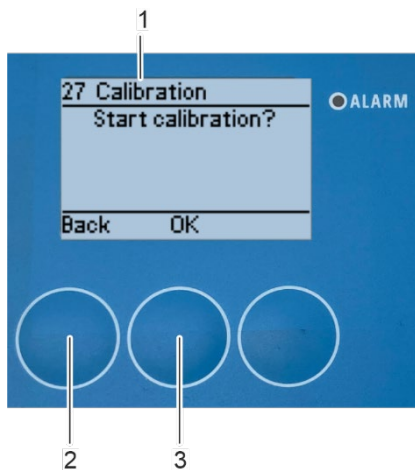

Fig. 138: Perform calibration
⇒ The “27 Calibration” submenu appears on the display (Fig. 138/1).
3. Confirm calibration start with *[OK]* (Fig. 138/3).
To not carry out the calibration and exit the submenu, press *[Back]* (Fig. 138/2).